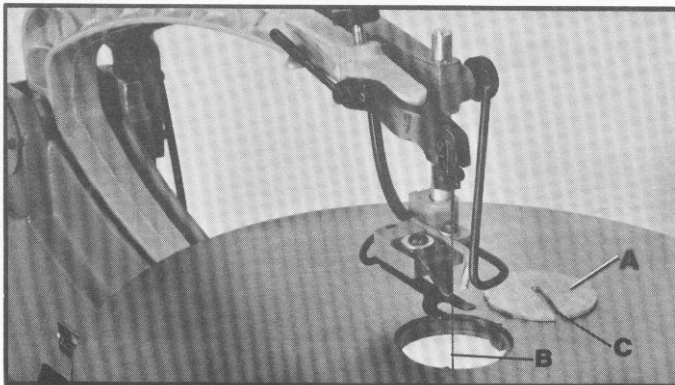

Fig. 10
2. Assemble table insert (A) Fig. 10, onto the table top from behind the saw blade (B) so slot (C) is toward the front of the machine. NOTE: Make certain the table insert fits flush with the table surface.